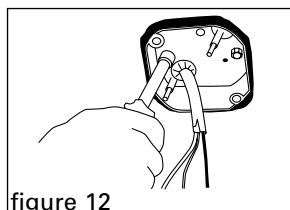

figure 12
9. Insert the electrical box into the hole on the ceiling and onto the bolts of the bracket. Secure the electrical box to the bracket with the two nylon locknuts (figure 12). **Be sure to tighten the locknuts securely! Do not overtighten.**